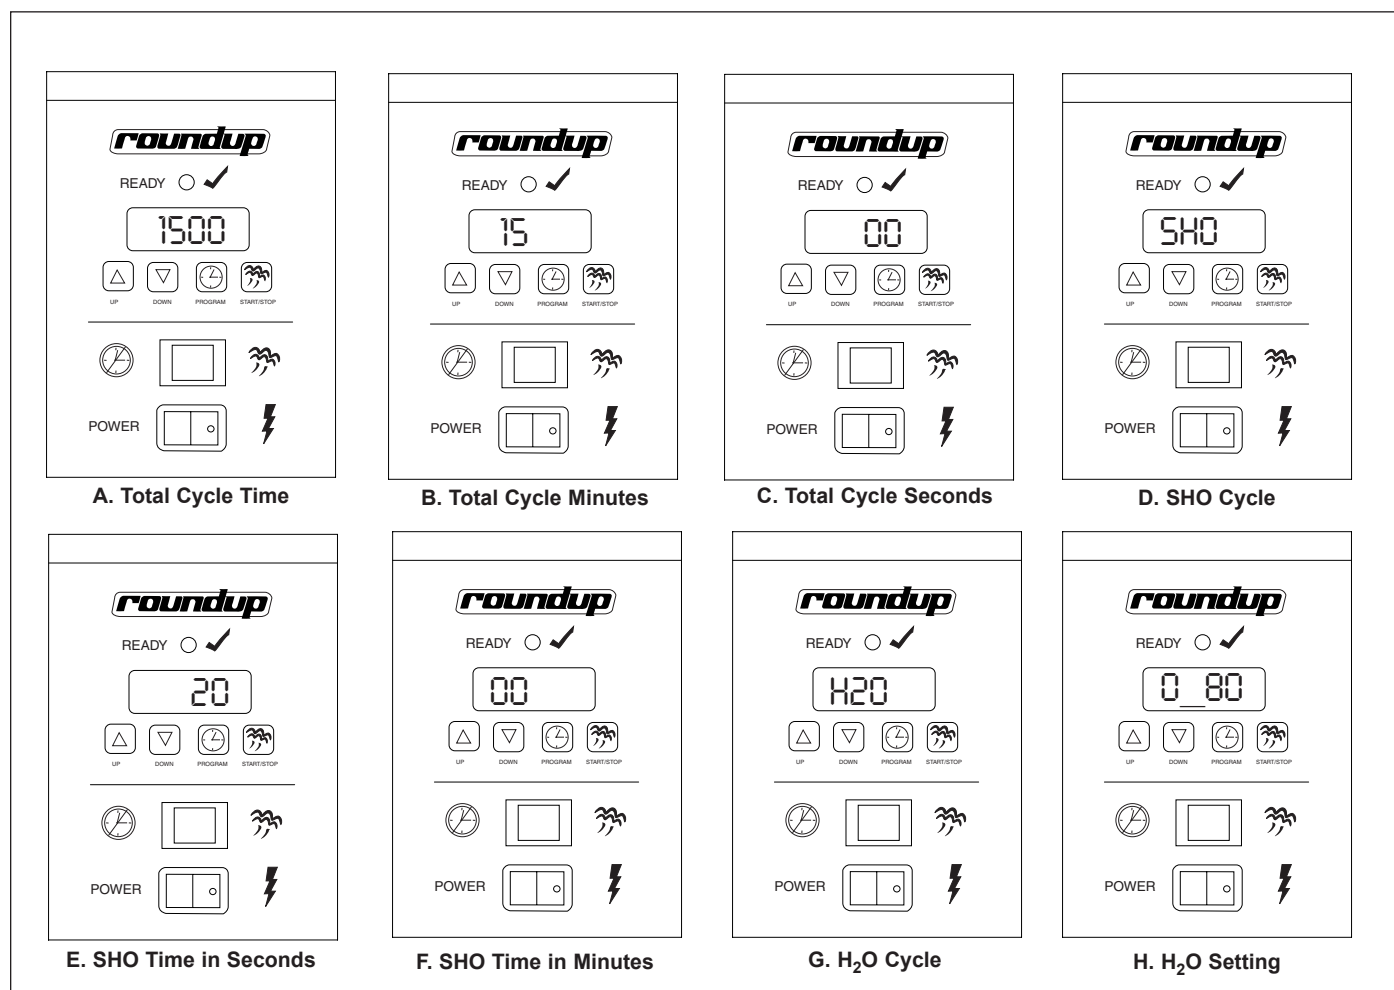

Figure 7. Control Programming Sequence
To program the control, refer to Figure 7 and use the following procedure in sequence:
1. Turn the Rocker Switch (power On/Off) to ON. The display shows the factory programmed Total Cycle Time in minutes and seconds (Item A, Figure 7).
3. To change the Total Cycle Time in minutes, use the UP or DOWN arrow buttons to change the time (Item B, Figure 7).
4. Press and release the Program button again and use the UP or DOWN arrow buttons to change the Total Cycle Time in seconds (Item C, Figure 7).
5. To change the SHO factory settings, make sure the control is in PROGRAM model, then press and hold the two arrow buttons simultaneously for 1-2 seconds and then release. SHO will be displayed (Item D, Figure 7).
6. Press and release the Program button and use the UP or DOWN arrow buttons to change the SHO setting in seconds (Item E, Figure 7).
- Press and release the Program button again and use the UP or DOWN arrow buttons to change the SHO setting in minutes (Item F, Figure 7).
- Press and release the Program button again and H2O is displayed (Item G, Figure 7).
- To change the H2O setting, press and release the Program button again to display the setting (Item H, Figure 7). Use the UP or DOWN arrow buttons to increase or decrease the time.